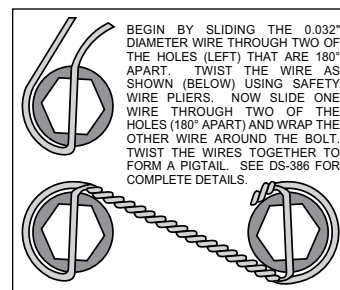

Figure 3. Safety Wire Diagram
- Orient the rotor (5) and the hat (6) as shown in Figure 1 and Photo 2. Attach rotor to hat using bolts (7) and washers (8). Apply red Loctite® 271 to the bolt threads and torque to 25 ft-lb using a criss-cross pattern. For an added measure of security, the bolts may be safety wired using standard 0.032 inch diameter stainless steel safety wire as shown in Figure 3. Refer to Wilwood's data sheet DS-386 (available at www.wilwood.com/Pdf/DataSheets/ds386.pdf) for complete safety wire installation instructions.